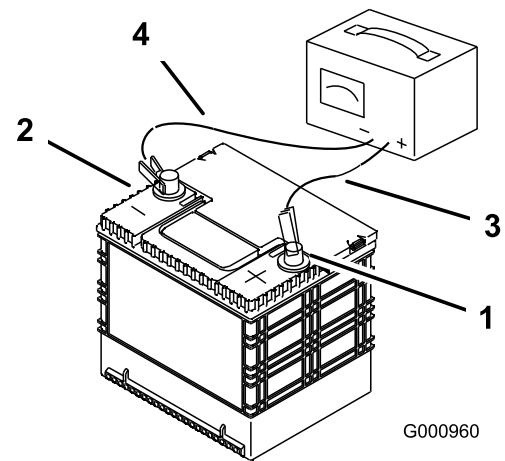

Figure 68
2. When the battery is fully charged, unplug the charger from the electrical outlet, then disconnect the charger leads from the battery posts (Figure 68).